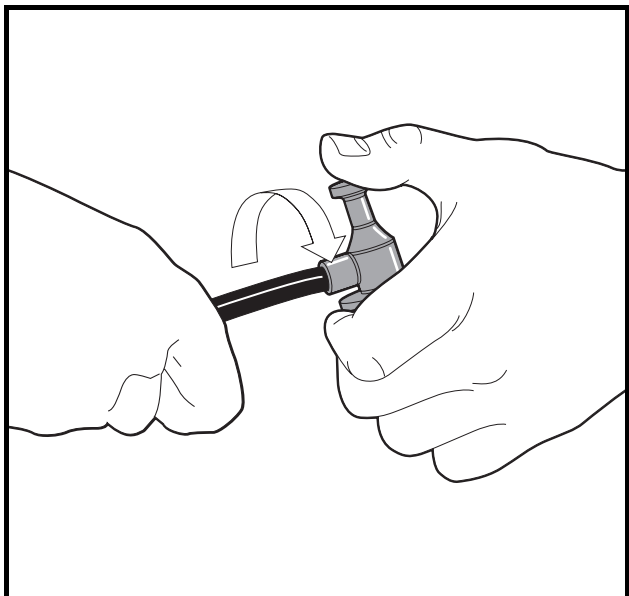

Figure 11-45 Spark Plug Cap Removal
- 5.2. Remove the cap from the wire by turning the cap counterclockwise three or four revolutions while gently pulling it off the wire (**Figure 11-45, Page 11-36**).
- 4.2. Remove the cap from the wire by turning the cap counterclockwise three or four revolutions while gently pulling it off the wire (**Figure 11-45, Page 11-36**).